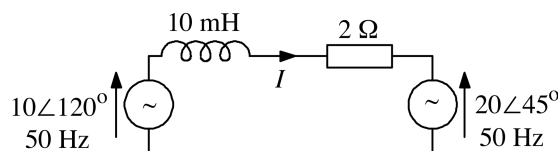

Figure 2c
- c. For the circuit of figure 2c, express the two source voltages in the form  $a + jb$ .